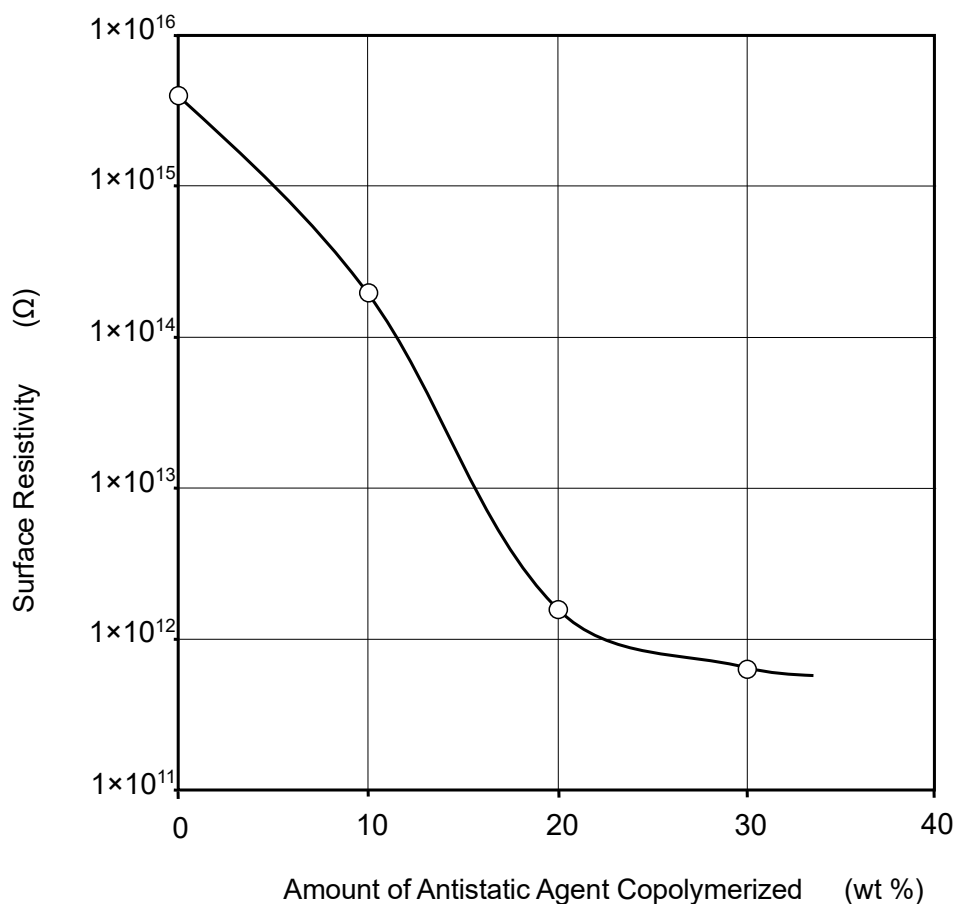

Figure 4. Relationship Between Amount of Reactive Type Antistatic Agents and Surface Resistivity
Figure 4 shows the relationship between the amount of reactive type antistatic agent in polyamide and the surface resistivity. Approx. 20 wt % of CHEMISTAT Y-400, copolymerized with polyamide, exhibits an excellent antistatic property.
A predetermined amount of CHEMISTAT Y-400 as described in Figure 4, adipic acid having an identical amount of substance concentration (mole) to CHEMISTAT Y-400, and the required amount of  $\epsilon$ -caprolactam\* were copolymerized with polyamide, and pellets were made. The pellets were molded using a press at 200 °C, 30 MPa for 3 min into sheets 500  $\mu$ m in thickness. They were then kept at 20 °C, 65%R.H. for 1 week, and used for samples.
\* To achieve the amount of copolymerized CHEMISTAT Y-400 with polyamide as described in Figure 4.
- The composition of CHEMISTAT Y-400 is polyoxyethylene diaminopropylether (total of amine values: approx. 25). Refer to Figure 4 on page 6, CHEMISTAT Y-400 should be copolymerized with polyamide as a component of polyamide.